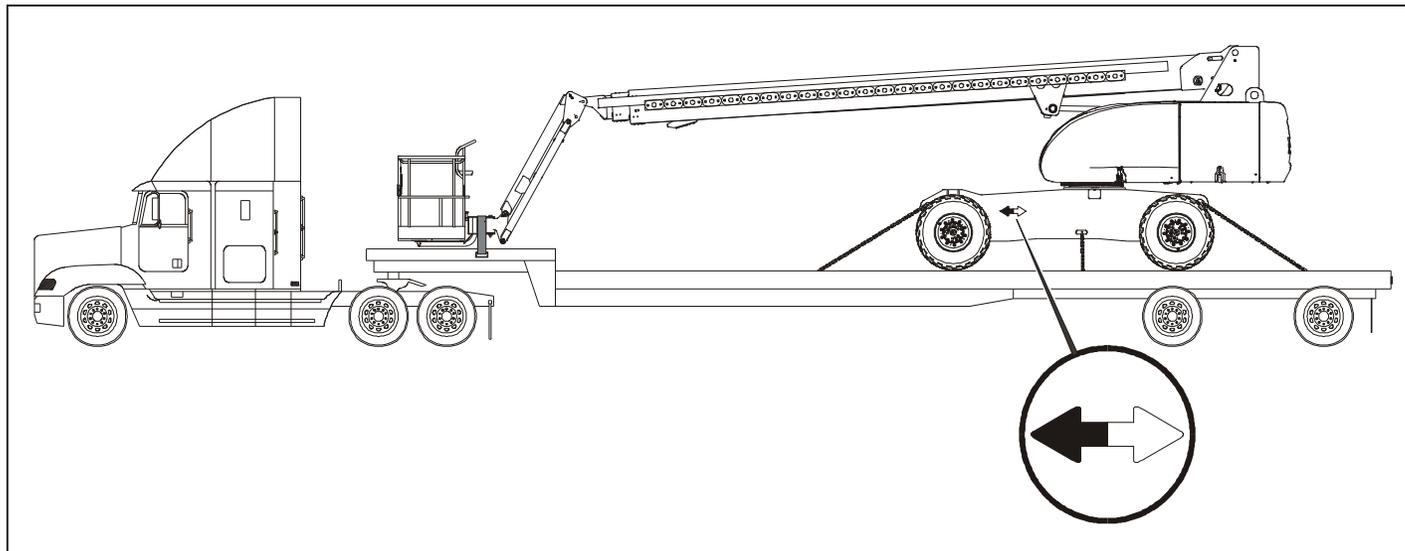

Figure 4-6. Typical 800S/860SJ Transport
- c. Drive it onto the trailer with the boom and platform positioned towards the truck. Refer to Figure 4-6., Typical 800S/860SJ Transport.